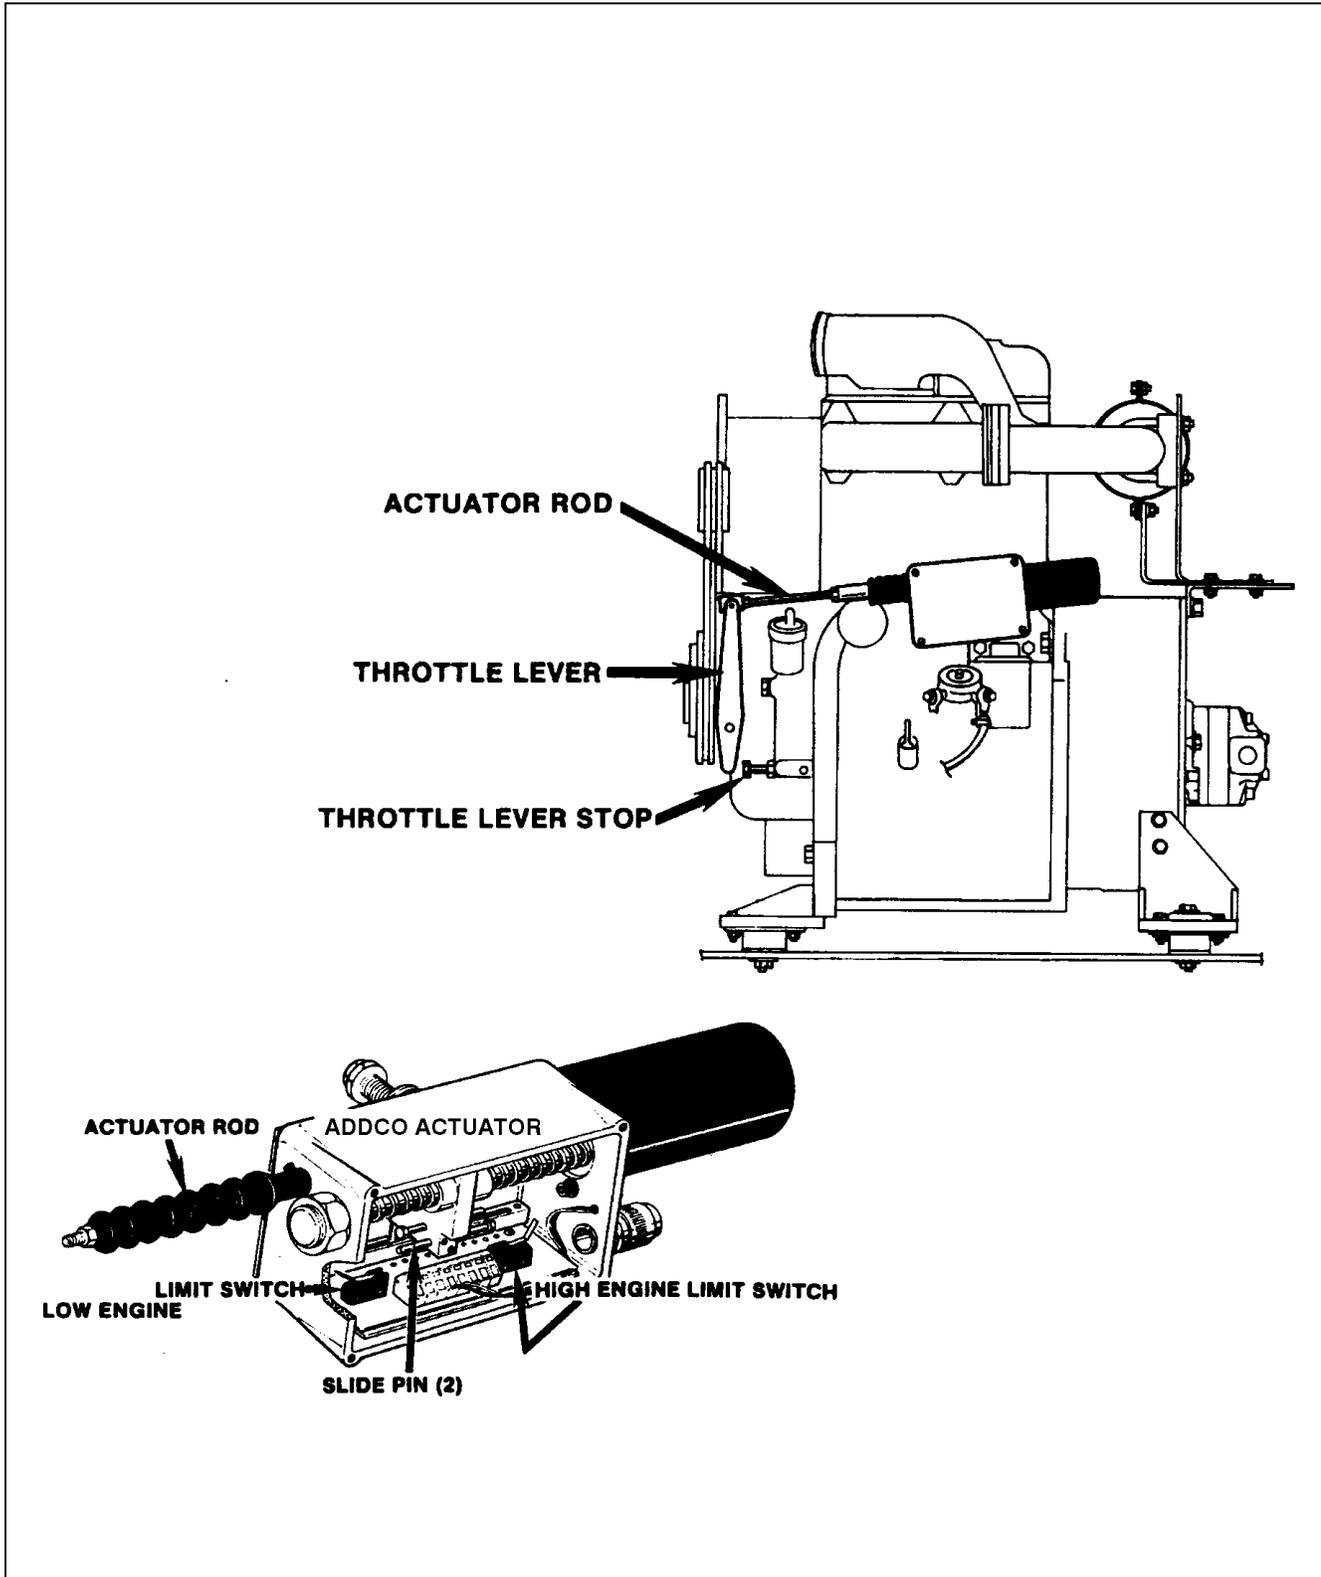

Figure 2-8. Addco Actuator Adjustments, F2L511.
2.17 THROTTLE CHECKS AND ADJUSTMENTS - DEUTZ F2L511 ENGINE. (SEE FIGURE 2-8.)